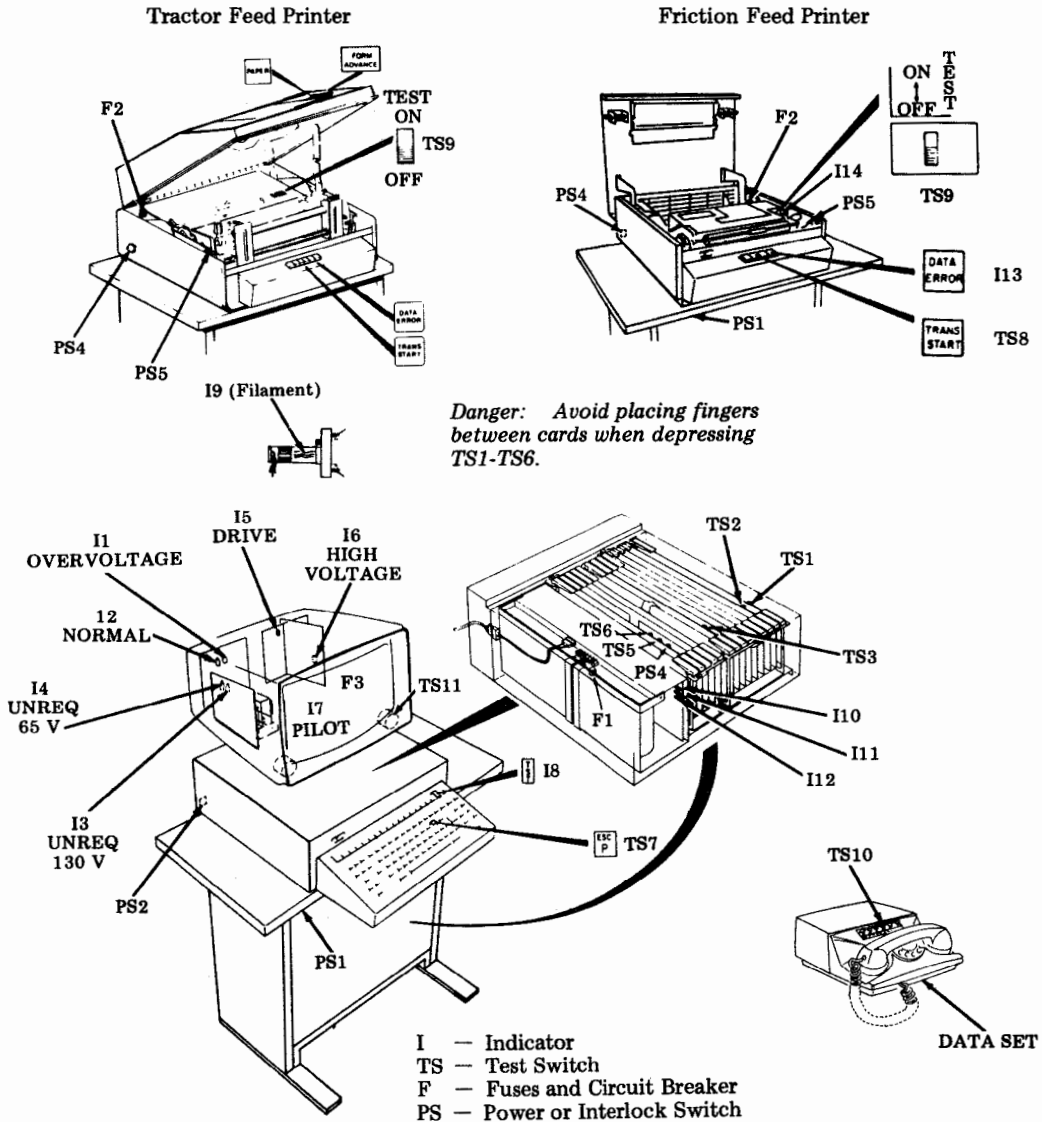

Fig. 16—Test Switches and Indicators
4.07 To locate test switches and indicator lamps, refer to Fig. 16. To locate components, circuit cards, connectors, and other elements indicated in the troubleshooting information, refer to Section 582-200-700. For wire color codes, cable, connector, and other wiring indicated for continuity checks etc in troubleshooting, refer to Section 582-200-400.